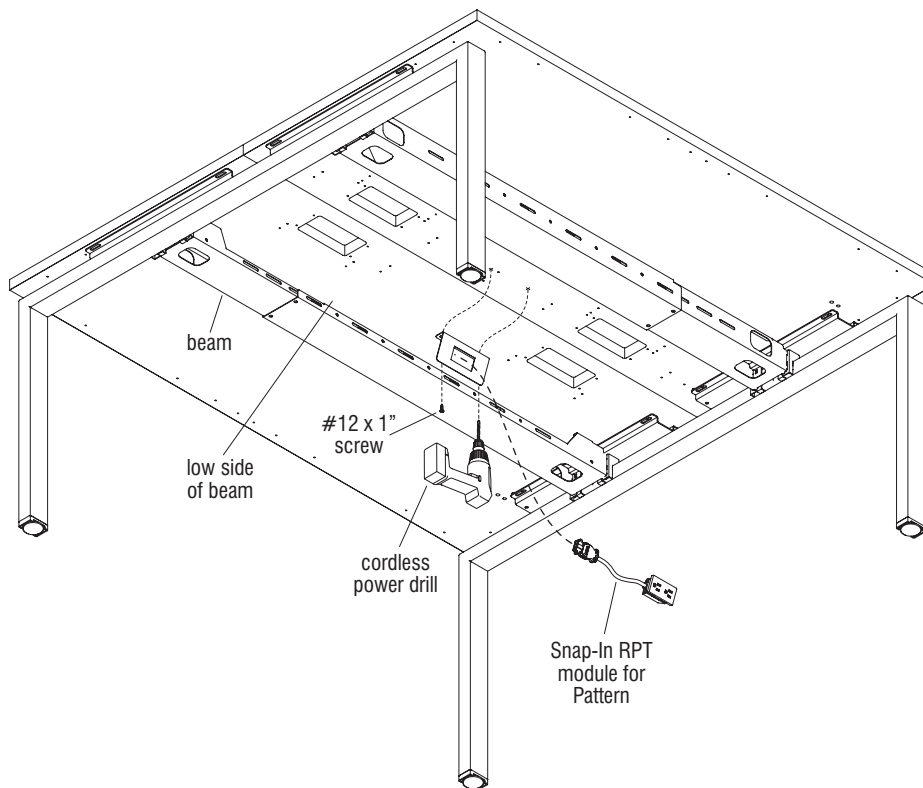

Figure 3 - Dual-Sided Benching - (underside view)
1. Choose an appropriate installation location for the Snap-In RPT bracket (Detail M), at the rear of the table, near the low side of the beam and position straight as illustrated (Figure 4). Using the two mounting holes of the bracket as a template, mark drilling locations to the underside of the table and drill a $\frac{3}{32}$ " diameter hole to no more than $\frac{3}{4}$ " deep at each mounting location. Take care to not drill too deep as damage to the worksurface may occur (Figure 3 & Detail J).
3. Route the connector end of the Snap-In RPT module in through the rectangular-shaped module mounting hole on the Snap-In RPT bracket as illustrated, then snap the module receptacles into the bracket (Figure 3 & Detail L).